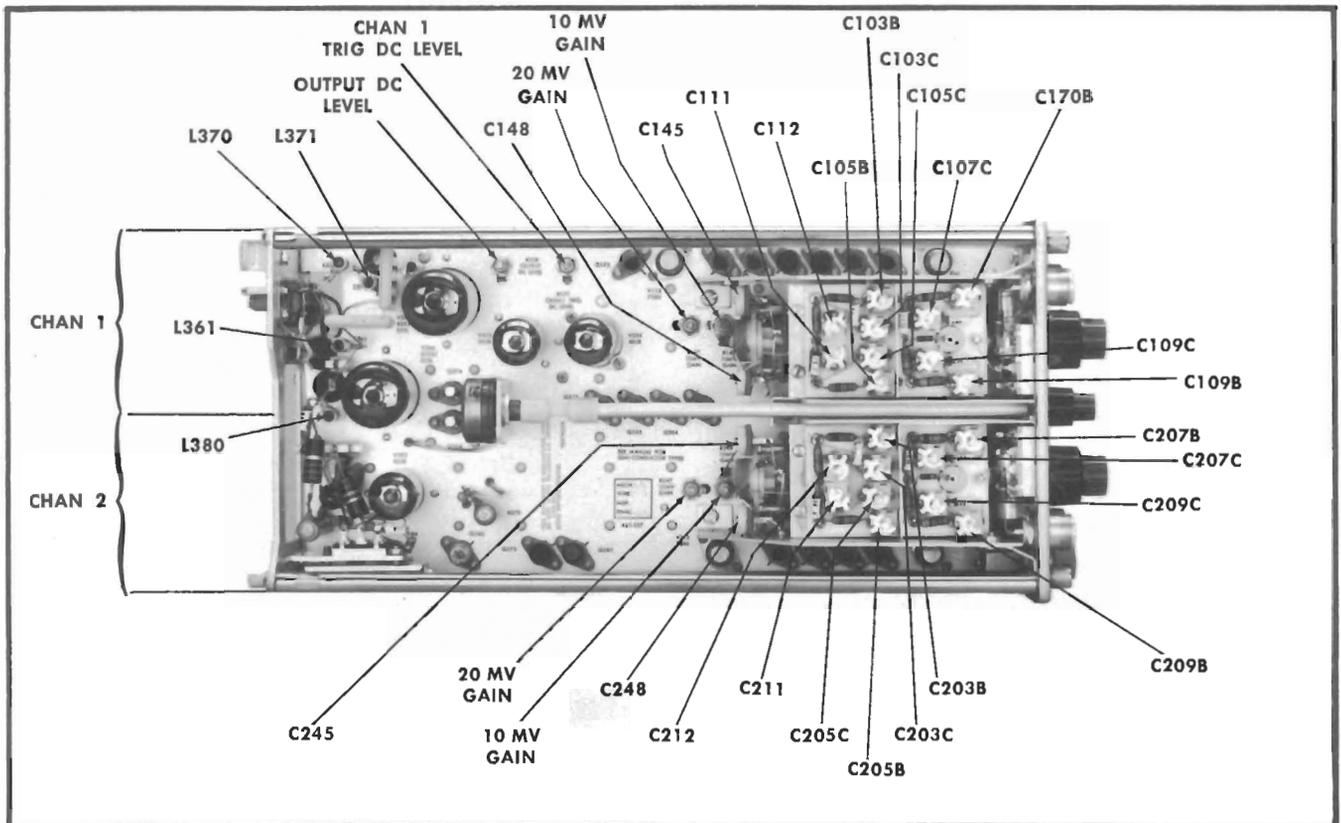

Fig. 5-5. Type 3A1S, left side view.
- f. Adjust 20 MV GAIN R147 (Fig. 5-5) for five major divisions of vertical deflection.
- d. Adjust OUTPUT DC LEVEL R328 (Fig. 5-5) so the average of the two voltages is +150 volts; for example, one plate at +140 and the other at +160 volts.
- c. Connect the dc voltmeter to R389 at switch SW390 (see Fig. 5-5).
- d. Adjust CHAN 1 TRIG DC LEVEL R171 (Fig. 5-5) for zero volts on the meter.
- f. Adjust 10 MV GAIN R249 (Fig. 5-5) for cancellation of the display shown by a single line of trace.
- h. Adjust 20 MV GAIN R247 (Fig. 5-5) to cancel the display.
- m. Adjust L361, L371, L370, and L380 (Fig. 5-5) for the flattest area immediately following the leading corner on the top of the waveform. (L370 and L380 affect the area of the waveform closest to the leading corner while L361 and L371 affect the waveform at a slightly later point.
- p. Adjust C148 (Fig. 5-5) for the squarest corner on the waveform.
- w. Adjust C248 (Fig. 5-5) for a square leading corner on the waveform.